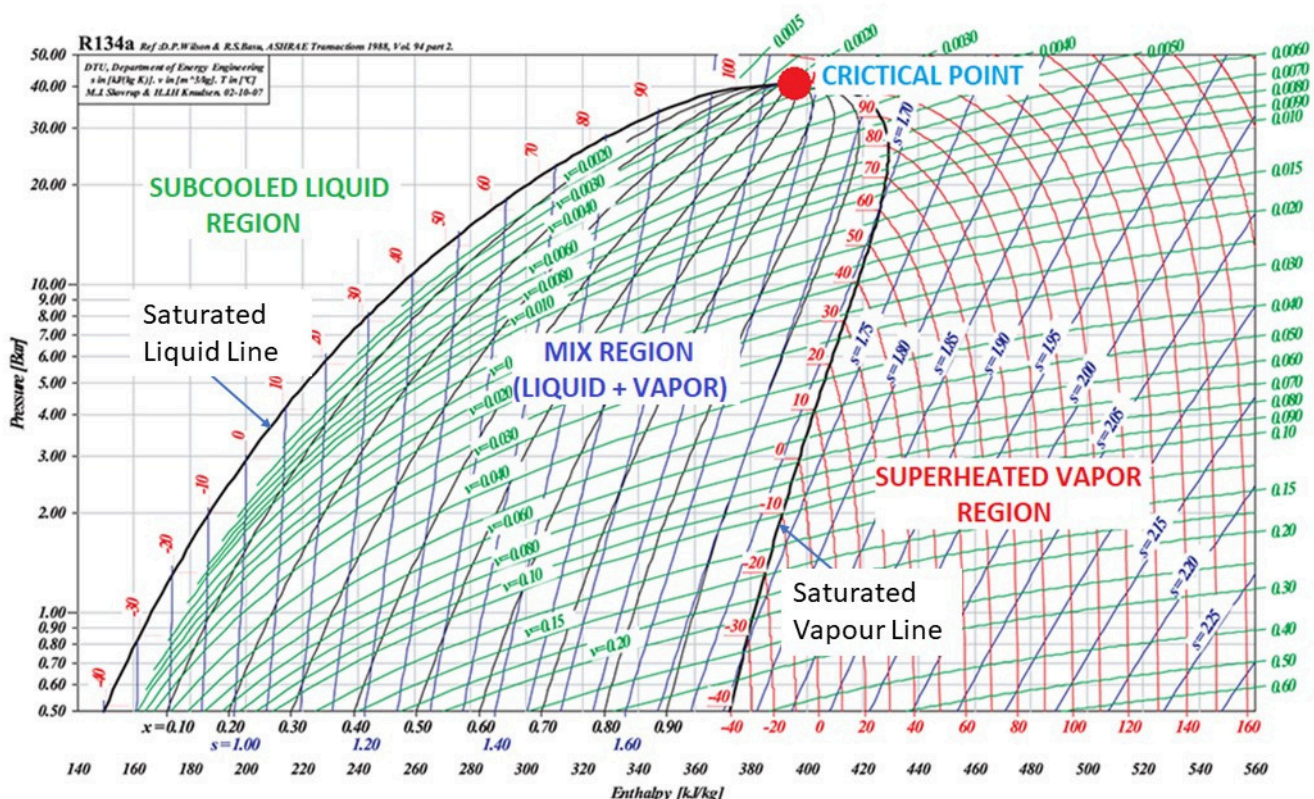

Figure 2.0: Pressure Enthalpy Chart (Mollier Chart) R134a
The P-h chart shows the properties of refrigerants diagrammatically. The chart in Figure 2.0 Pressure Enthalpy Chart (Mollier Chart) R134a. It can be seen that refrigerant pressure on the vertical axis and enthalpy on the horizontal axis. Enthalpy is a measure of the quantity of heat, both sensible and latent, per pound[lb] or per kilogram[kg] of refrigerant. It is usually expressed in terms of Btu/lb [British unit] or kJ/kg [S.I unit]. There are **Three (3)** important regions in the basic diagram of pressure and enthalpy which are *the subcooled region, the superheated region, and the mixing region (liquid and gas)*.